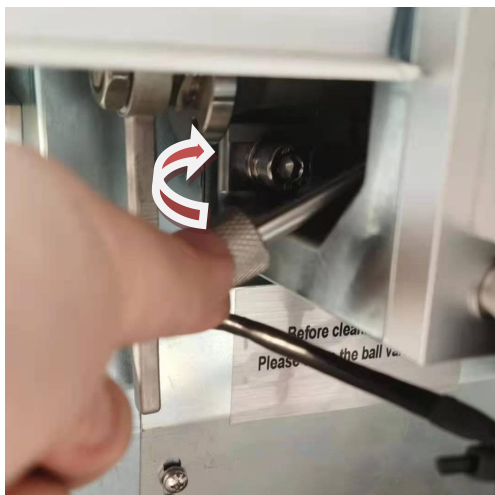

Figure 6-10 After cleaning, install the lens in the correct direction.
Step 5 After the cleaning is complete, install the lens in the correct direction, as shown in Figure 6-10: